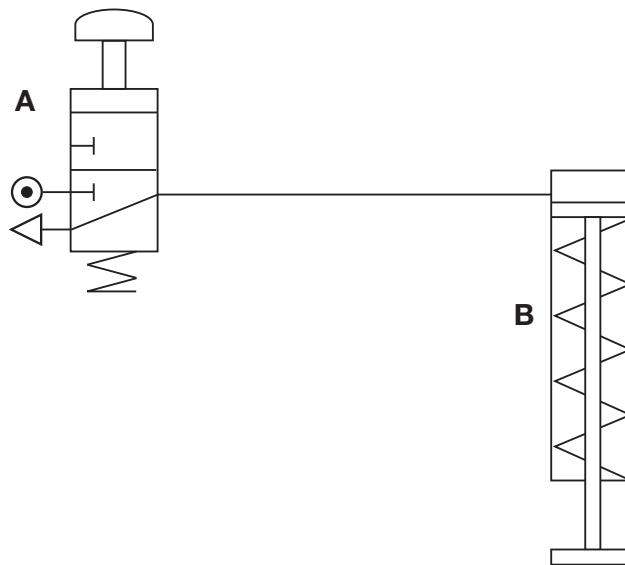

Fig. 3
- 2 The test circuit shown in Fig. 3 was used to lift the rear of the robot so that the legs could be moved.
- (a) Name component **B** in Fig. 3.
- (c) The circuit in Fig. 3 operated satisfactorily when lifting the robot, but it lowered too quickly.
- (i) Draw on Fig. 3 a uni-directional flow restrictor that will allow it to lift quickly and lower slowly. [3]